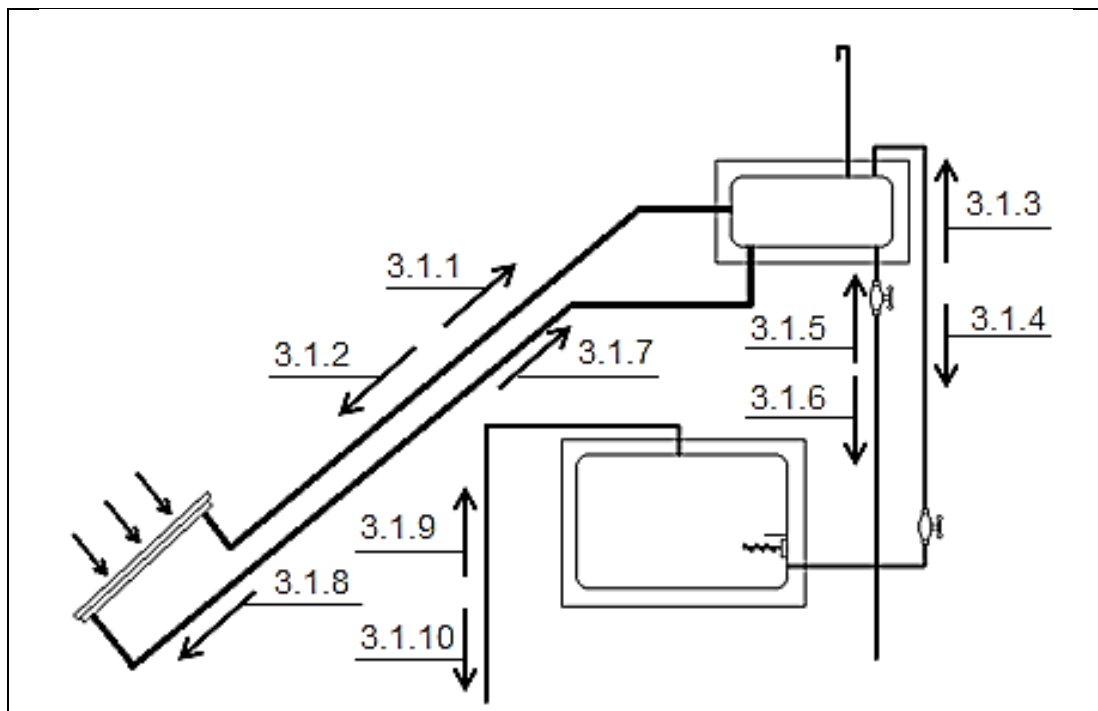

FIGURE 3.1
3.1 FIGURE 3.1 shows a solar heating system as interconnection with an electric geyser. Identify all the numbers which indicate the correct flow direction of the water in the different pipes of the system. Write only the correct numbers in the ANSWER BOOK.